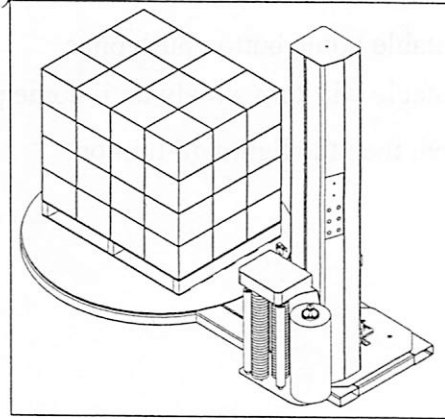

Fig. 3-3-1
3.3 DESCRIPTION OF OPERATION (Per fig. 3-3-1)